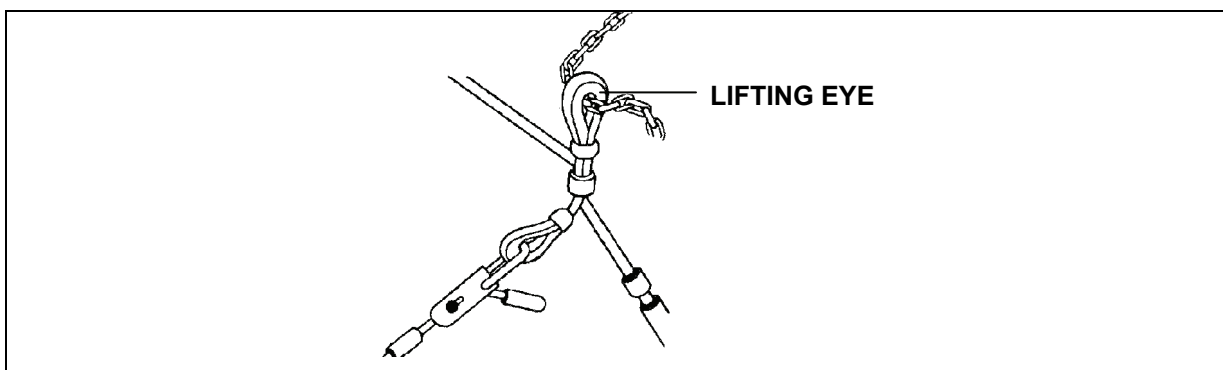

Figure 8-25. Connecting Sling Leg Lifting Eye
- Loop the chain end of a sling, such as the 10,000-pound capacity sling set, through each sling lifting eye as shown in Figure 8-25.